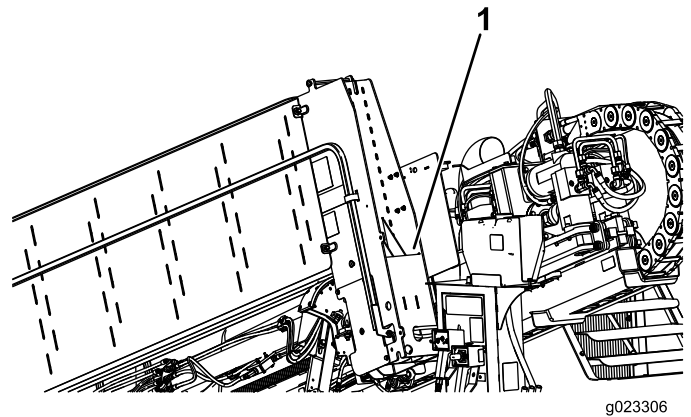

Figure 100
7. Store the cylinder lock next to the anti-freeze tank (Figure 100).